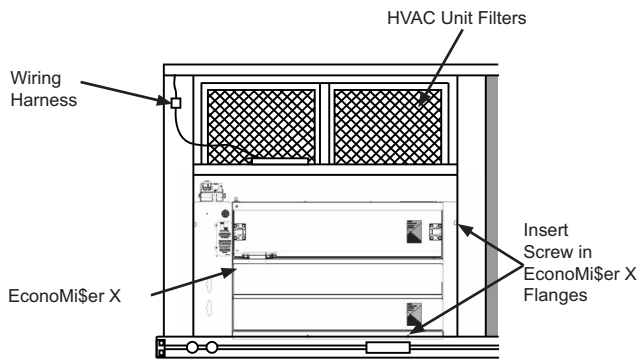

Fig. 3 — EconoMiSer® X Assembly Installed on HVAC Unit (CRECOMZR067A01 Shown)
4. Slide the EconoMi\$er X assembly into the rooftop unit. (See Fig. 3.)
5. Ensure EconoMi\$er X assembly is square (tolerance $\pm 1/32$ in). Screw the EconoMi\$er X to the unit along both side flanges and bottom flange. (See Fig. 3.)